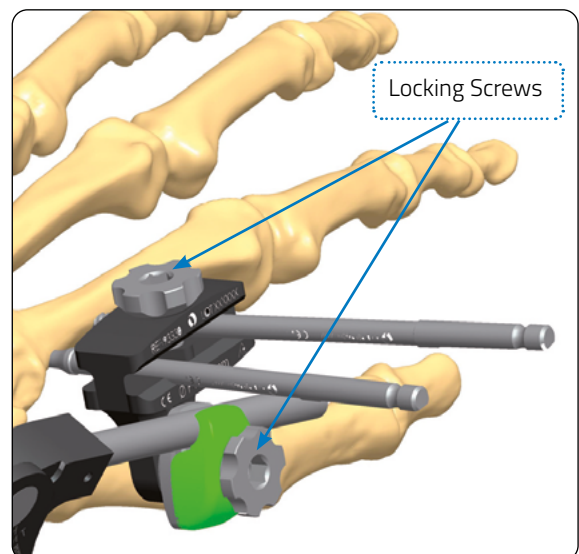

Fig. 11
- Attach the Wrist Module to the Small Multi-Screw Clamp-Short (93330) and close the clamp by hand (**Fig. 11**)